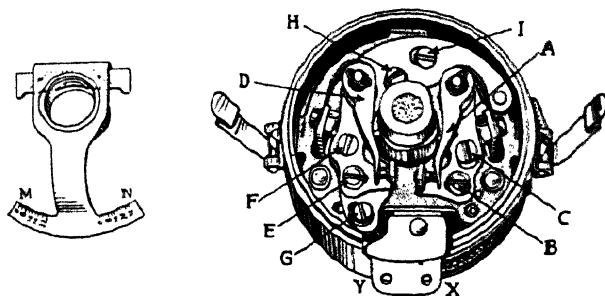

Fig. 18.—EIGHT-CYLINDER DISTRIBUTOR SYNCHRONISATION
One-half of the cylinders are fired by each set of points. On the eight-cylinder distributor with four-lobe cam, the points must open 45 cam degrees apart, and on the six-cylinder type with the three-lobe cam, 60 cam degrees apart. If the points do not open at this interval, one half of the cylinders will have a different ignition timing from the other half. To get this very important adjustment, the instructions given below must be carried out carefully, and a tool is required as illustrated in Fig. 18, which can be obtained at an authorised Delco-Remy service station.
*To set contact opening* of arm *A* (see Fig. 18), turn distributor shaft in its direction of rotation until rubbing block of breaker arm *A* is on lobe of cam. Loosen screw *B* and turn screw *C* to get contact opening, which is .018 in. to .024 in., preferably .022 in. Tighten screw *B*.